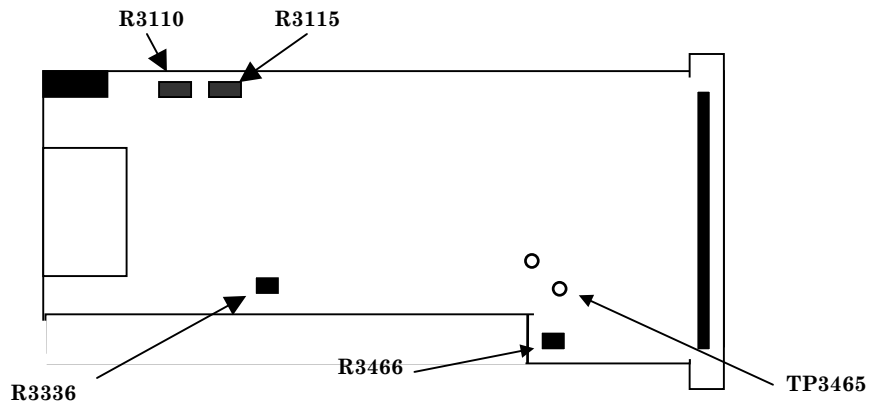
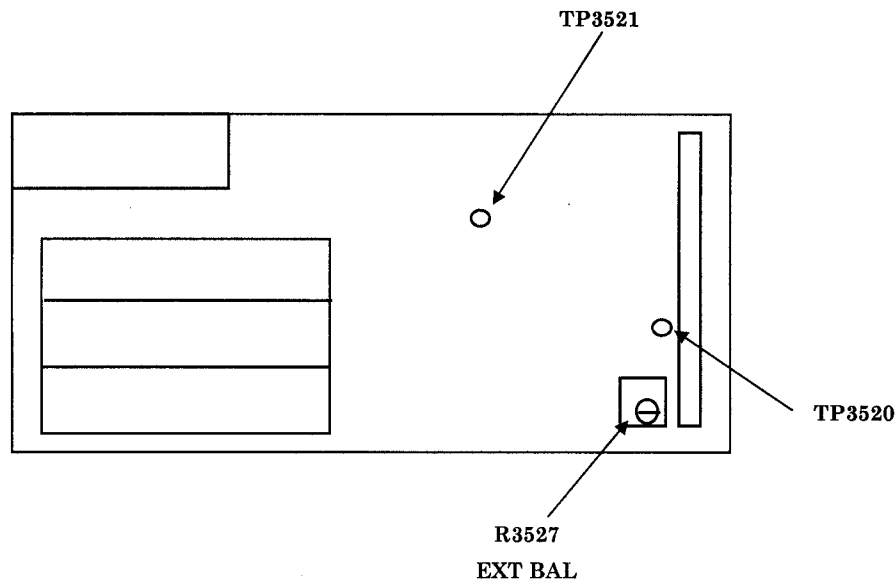

Figure 7. Trigger board.
Figure 9. Trigger switch board.
(3) Adjust R3466 (fig. 7) for a 0.6000 V dc indication on digital multimeter. (R).
(1) Set digital multimeter to measure 2 V dc fullscale and connect **HI** input to TP3520 and **LO** input to TP3521 (fig. 9).
(2) Press the **CPLG AC** pushbutton in and set the **TRIGGERING SOURCE** switch to **INT**.
(3) Adjust R3527 EXT BAL (fig. 9) for 0 V  $\pm$ 10 mV. Disconnect the digital multimeter (R).
(4) Set the **SECONDS/DIV** switch to **2 m** and **TRIGGERING SOURCE** switch to **LINE**.
(5) Press the **TRIGGERING MODE AUTO** pushbutton in.
(6) Press and hold **DISPLAY TRIG VIEW** pushbutton and adjust R3336 (fig. 7) so the start of waveform trace is at horizontal graticule center line (R).
(7) Set **TRIGGERING SLOPE** switch to **-** and compromise final adjustment of R3336 (fig. 7) between display starts of both **+** and **- SLOPE** switch settings while pressing the **TRIG VIEW** pushbutton in.
(8) Set **TRIGGERING LEVEL** control fully ccw.
(9) Press and hold **TRIG VIEW** pushbutton in and adjust R3110 (fig. 7) to position bottom of displayed waveform to one half major graticule division above point where waveform just loses triggering (R).
(10) Position **TRIGGERING LEVEL** control fully cw.